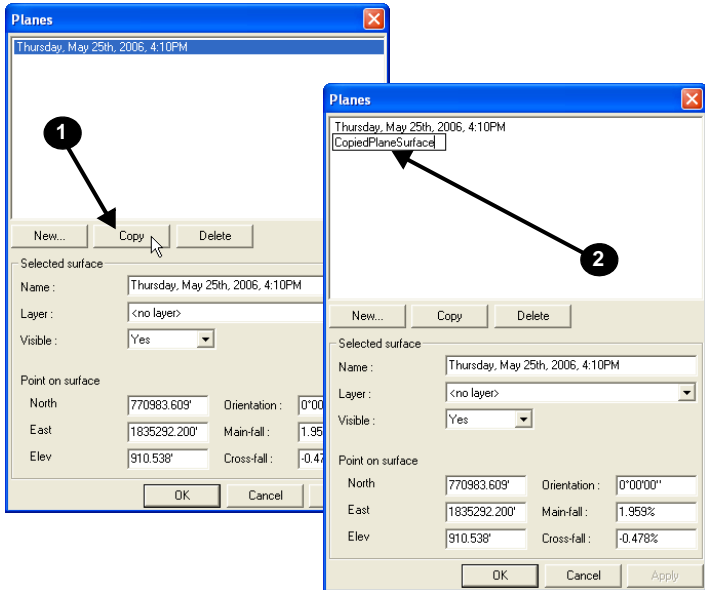

Figure 7-7. Create a Copy of a Plane Surface
2. Select the plane surface to copy and click **Copy** (Figure 7-7 on page 7-7).
3. Type a name for the copied plane surface and press **Enter** (Figure 7-7). If needed, click-pause-click a plane surface name to rename a plane surface.